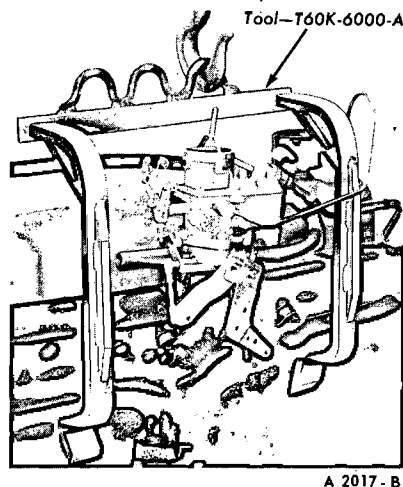
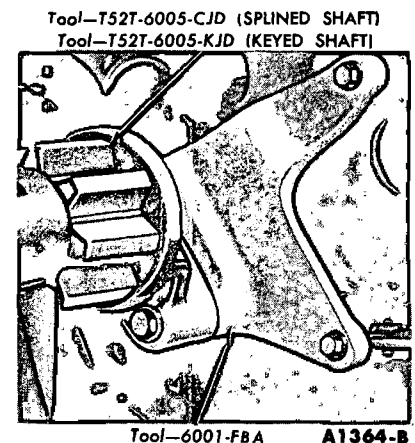

FIG. 57—Engine Lifting Hook
FIG. 58—Engine Work Stand
12. Attach the engine lifting hook (Fig. 57). Carefully lift the engine out of the engine compartment. Install the engine on a work stand (Fig. 58).